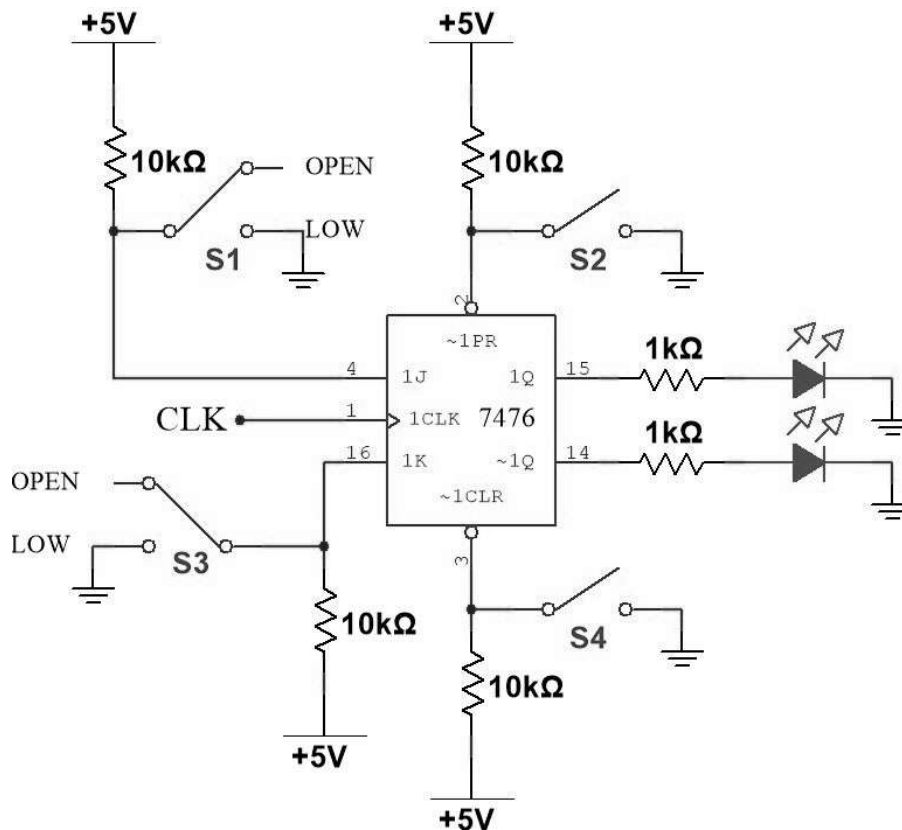

Figure 3.16. Experimental Edge-triggered JK Flip-flop
- Connect the circuit of figure 3.16! Set J and K inputs low. Connect the square-wave generator to the CLK input and set it as in step 1 D Latch experiment!